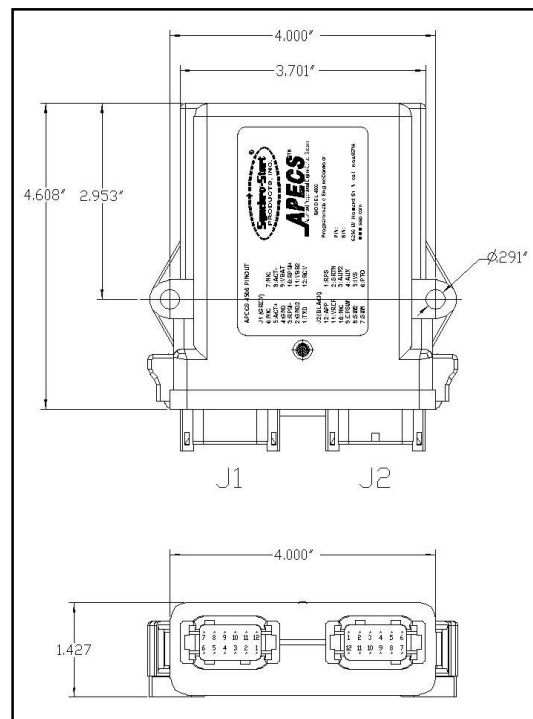

Figure 5. APECS 5000 Dimensions
1. Refer to **Figure 5** and **Table 1** to install the system and subcomponents
2. Mount the unit in a location where the effects of vibration and temperature are within the specified range. Operating temperature: -40°F to +185°F (40°C to +85°C); vibration: 6 G's from 40 to 2000 Hz. (See **Figure 5** for controller dimensions.)